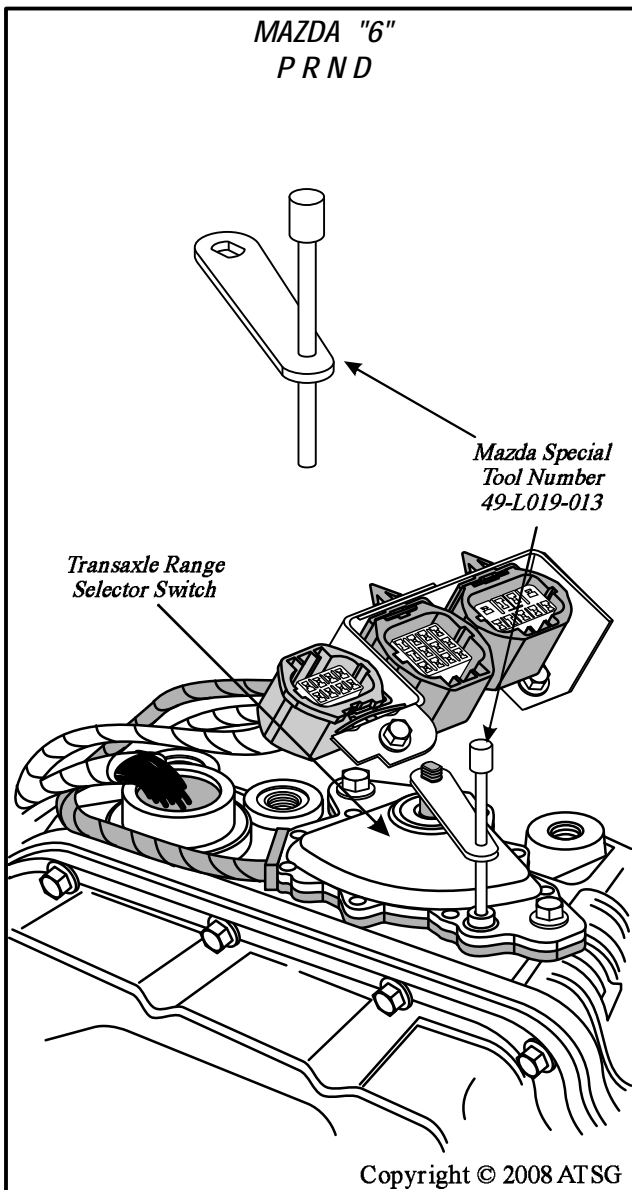

Figure 239
3. Install the Mazda transaxle range switch special tool number 49-L019-013, as it is shown in Figure 239.
4. Rotate the transaxle range sensor until the rod of the tool enters the neutral hole, as shown in Figure 239.